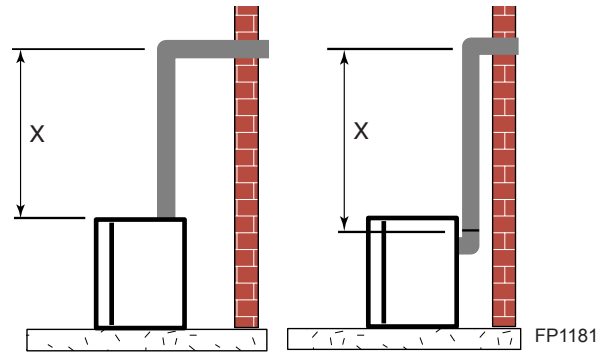

Figure 27 - Vertical Height Requirements
Place fireplace into position. Measure the vertical height (X) required from the base of the flue collars to the center of the wall opening. *Figure 27*